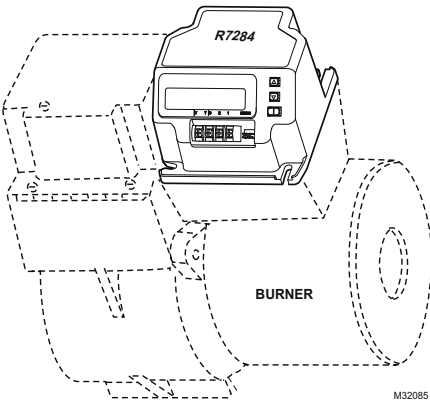

Fig. 1. Mounting R7284 on junction box.
1. Mount on a 4 in. by 4 in. junction box, directly on the main burner, or inside the appliance cabinet. In replacement applications, mount in the same location as the old control. See Fig. 1. Make sure